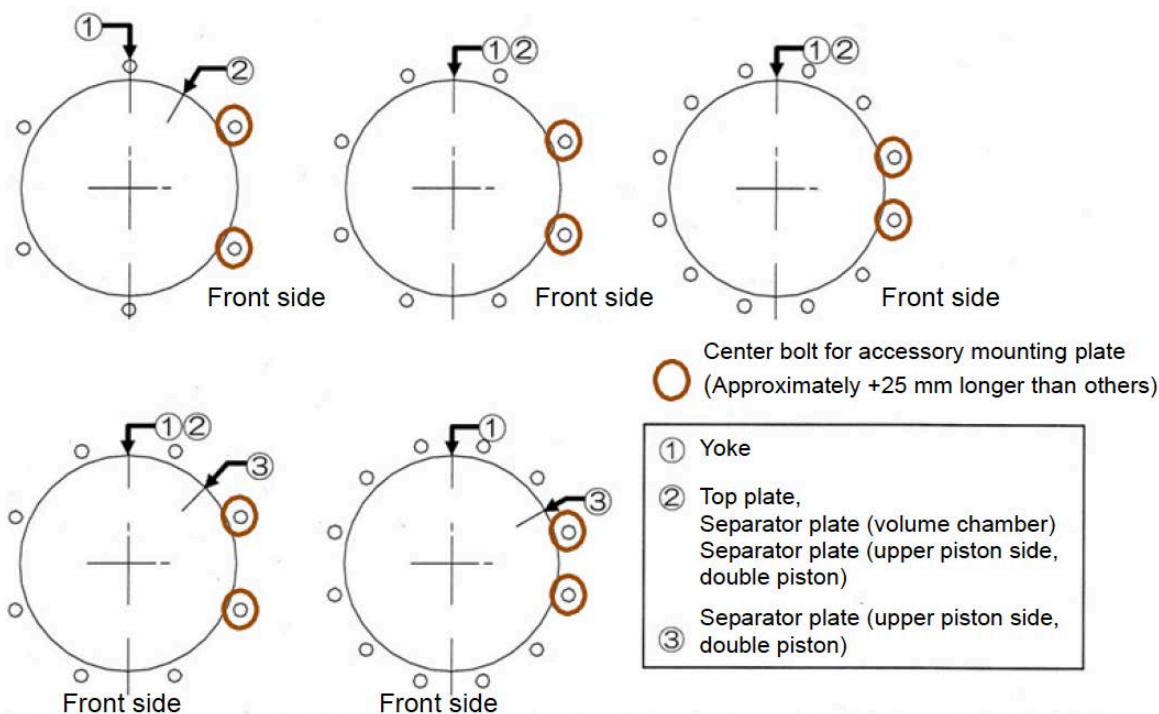

Figure 11 - Center bolt Positioning
10. Replace O-rings (21) and guide ring (16) with new parts. Coat the O-ring and guide ring with silicone grease (or equivalent).
11. Replace cylinder tube (14), separator plate (69), volume chamber tube (70), top plate (17). Coat the inner surface of the cylinder tube with silicone grease (or equivalent).
12. Ensure the positions of the air connections are correct. Insert the center bolts into the holes of the top plate and yoke. Mount the spring washers and nuts and tighten them lightly by hand. Mount the spring washers and nuts to the bottom side of the yoke by hand. Ensure that the position of center bolts (approximately +25 mm longer than others) for the accessory mounting plate, if equipped, complies with Figure 11.